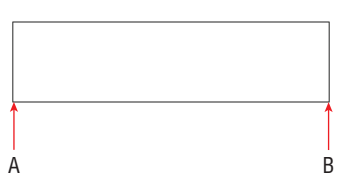

FIGURE 10.3 Specifying the ends of a fit baseline
- Click points A and B in Figure 10.3. A blinking cursor appears.